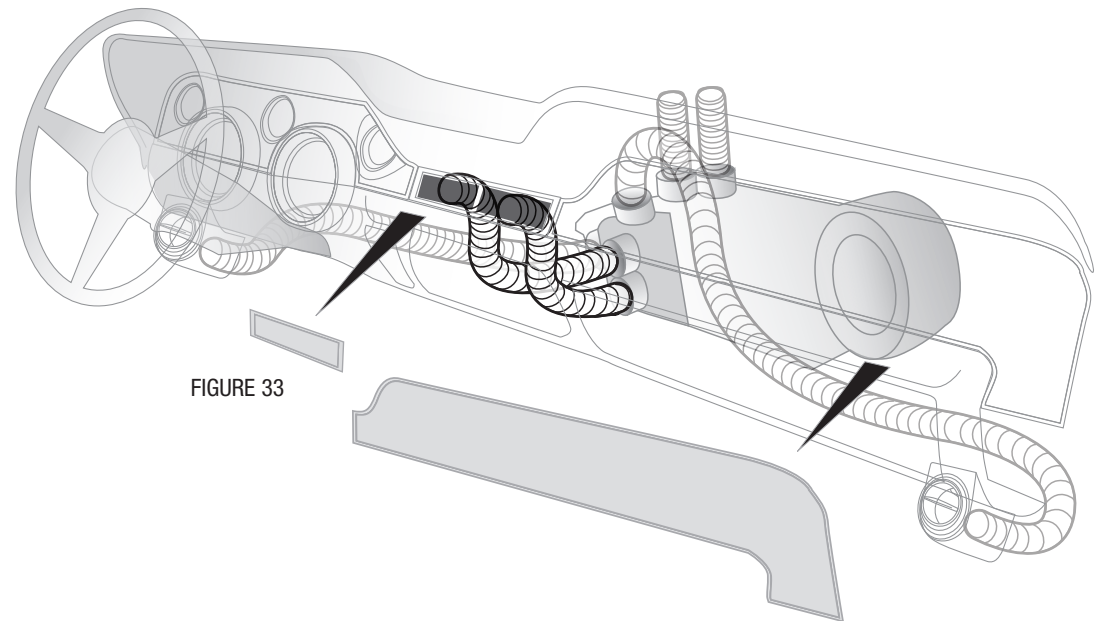

FIGURE 33
**Bag Kit G:** Installing the center louver vent requires a small amount of cutting to the dash support. Using a 3/8" socket reach to the backside of the dash and remove ALL the nuts holding the trim bezel in place (see figure 33). In the center of the dash above where the radio was, is a removable plate. First, carefully remove the "A/C delete" face off the dash (this will not be reused).